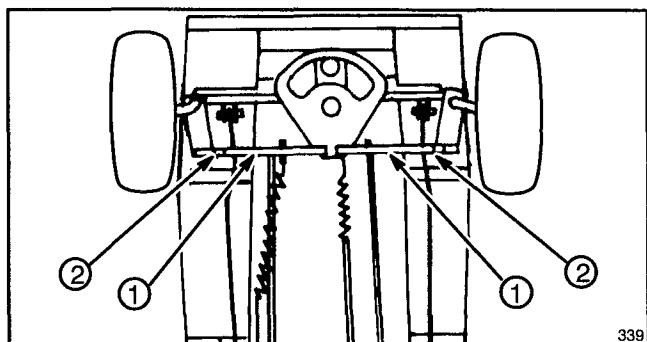

Figure 28
1. To align front wheels, loosen jam nut and turn tie rod end (there is only one adjustable tie rod) until center line distance across front of wheels ( $d'$ ) is .06 inch (1.5 mm) to .25 inch (6.3 mm) less than center line distance across rear of front wheels ( $d''$ ) (Fig. 28 & 29).